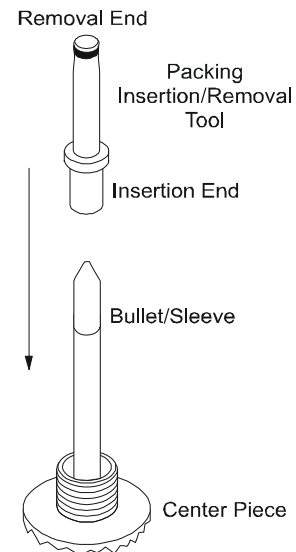
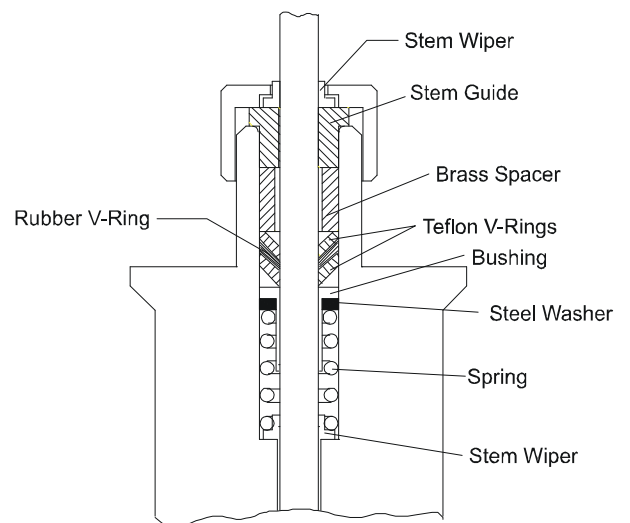

Figure 1: Packing Insertion/Removal
Figure 2: Packing Installation
See Figure 1 and Figure 2.
16. Apply a small amount of grease to the outside and inside diameters of the v-rings and place over the valve stem, small end down. The rubber v-ring must be between two teflon rings. See Figure 2.